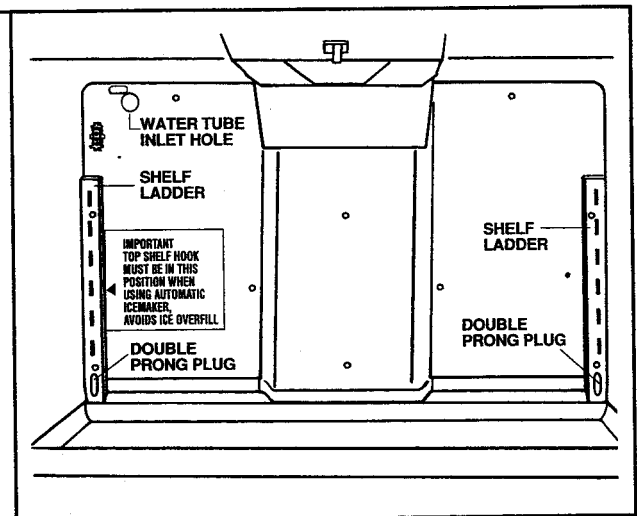

Figure 7
b. On refrigerators with an adjustable full-width freezer shelf, push one (1) oblong white plastic double-prong plug into the lowest shelf slot at each end of the ladder. See Figure 7.